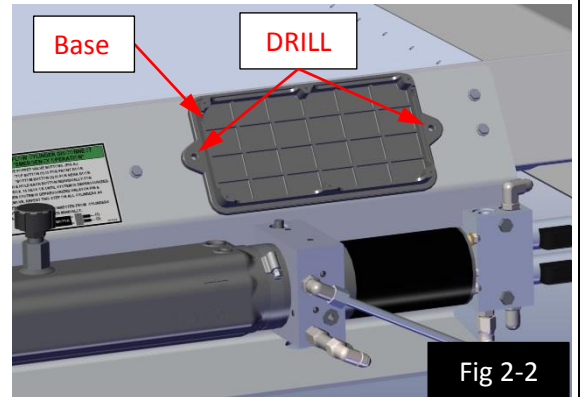

Fig 2-2
b. Hold the control box base on the motor mount bracket. (See Fig 2-2)